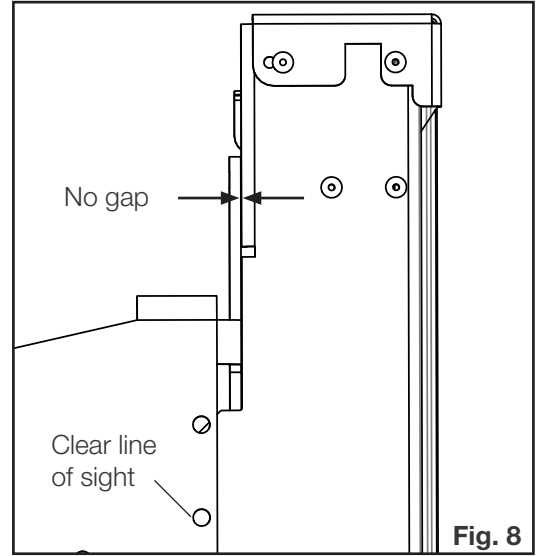

Fig. 8
8. The GGA mount bracket holes should be lined up with the screw holes of the GGA slider brackets to ensure a clear line of sight (**Fig. 8**). It is typically necessary to raise the GGA on both sides using the vertical adjustment screws. Raising the GGA approximately 1/8" typically provides the optimum preliminary fit (**Fig. 9**). Repeat on other end of GGA.